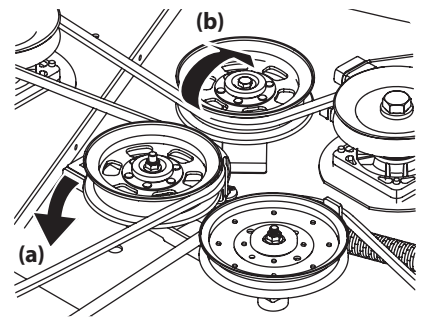

Figure 34
- b. Working from the middle of the mower, pivot the idler bracket and movable idler pulley rearward away from the backside of the "V" belt (a) just far enough to lift the belt up and over the idler pulley (b). See Figure 34.